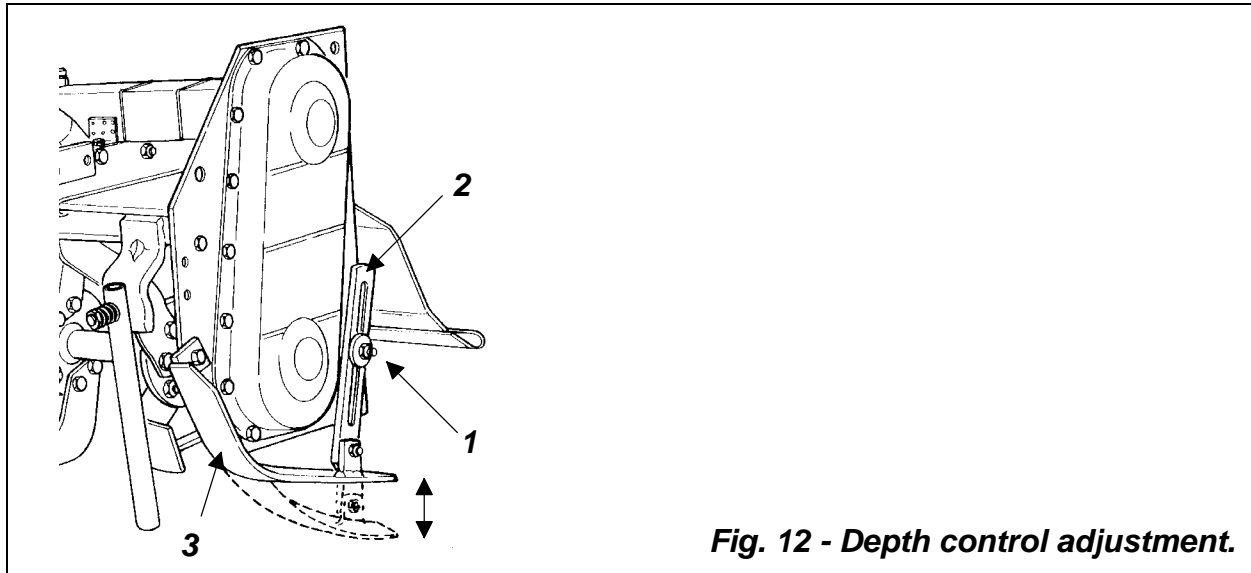

Fig. 12 - Depth control adjustment.
1. Loosen the nut (see #1, fig. 12) on the adjustment arm.
2. Place the skid (see #3, fig. 12) in the desired position.